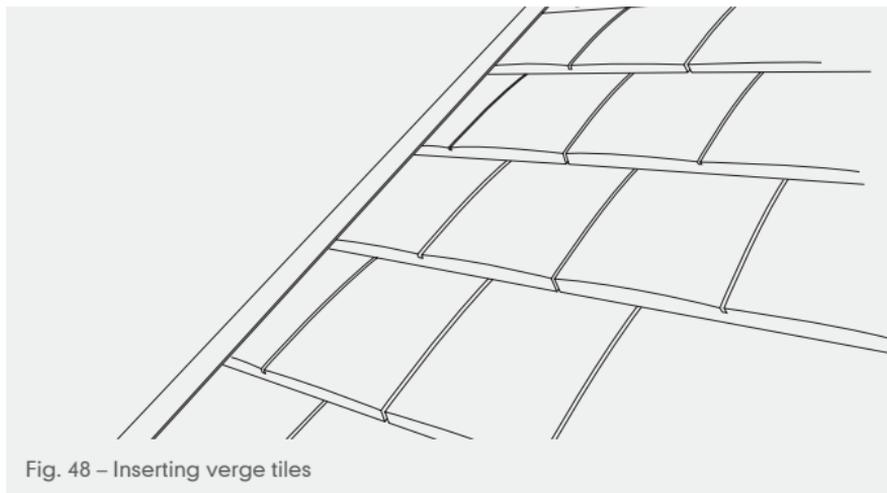

Fig. 48 – Inserting verge tiles
- Lay tiles in the usual manner, ensuring the verge tiles are fully inserted into the verge extrusion and mechanically fixed (Fig. 48).